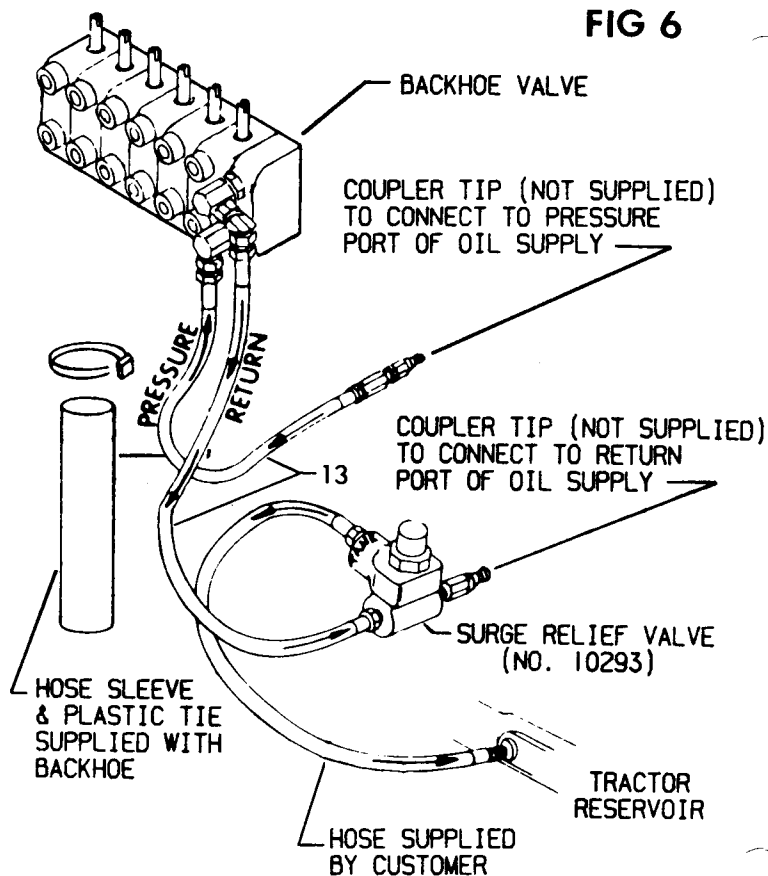

FIG 6
4. OPEN-CENTER SYSTEM WITH RETURN OIL REQUIRED FOR LUBRICATION - Fig 6:
On some tractors, the return oil can not be routed directly to the reservoir because it is required for the lubrication of other functions. Check this characteristic with your dealer. The pressure hose (13) on the backhoe control valve should be connected to the pressure port of the tractors remote couplers or directly to the tractor valve. Install hose sleeve supplied with backhoe on pressure hose to cover fitting on backhoe valve and secure with plastic tie provided. The return hose (13) on the backhoe control valve must be connected to a surge relief valve as shown in Fig 6.
Complete the hydraulic hook-up by connecting the surge relief valve to the return port of tractor remote couplers or directly to the tractor valve, and by connecting a hose from the TANK port of the surge relief valve to the tractor reservoir as shown in Fig 6. The surge relief valve is used to protect the backhoe valve from damage caused by accidental pressurization or high back pressure build-up. If this happens, oil will be vented from the TANK port of the surge relief valve to the tractor reservoir to prevent loss of vented oil.